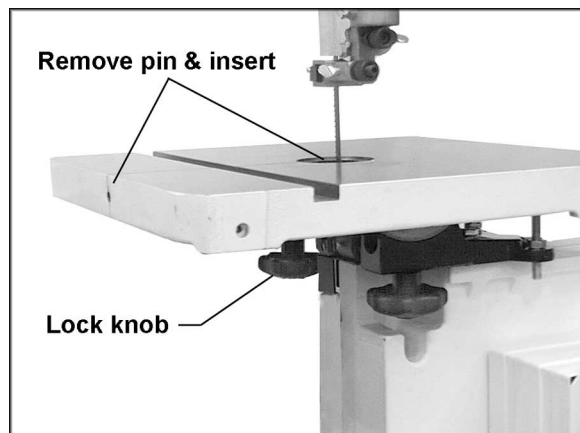

Figure 11
14. To mount table, remove table insert and table pin (see Figure 11). Orient the table so that the saw blade will pass through the slot in the table and into the center opening. Continue holding up the table, and turn the table so the two screws that are hanging vertically from below the table will slide into the holes on the trunnion support bracket. Lower the table. The screws should now protrude below the trunnion support bracket - attach lock knobs to the ends of these screws. See Figure 11.